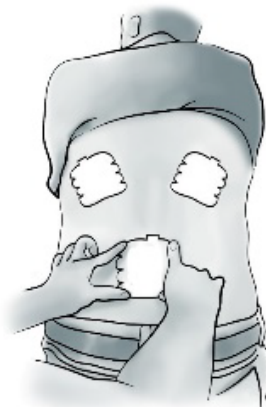

Figure 4: Attachment of the stickers
- Remove the liner from the biggest sticker and attach it to the subject's skin just above the buttocks according to the mark previously made. Do the same for the remaining two upper stickers, as illustrated in Figure 4.
**Note:** Be aware of the marking right (R) and left (L) on the stickers intended for the upper unit of the C-Scan® Track and place them accordingly to the right and left of the spine.